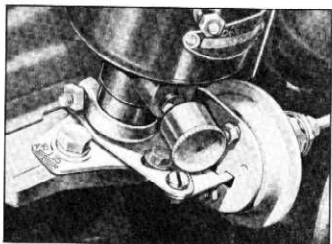

Fig. 38—Octane Selector
1. Set the octane selector at "0" on the scale (fig. 38) and attach a Neon Timing Light to the No. 1 spark plug and a good ground. Start the engine and run it at idling speed with light aimed at flywheel housing opening.